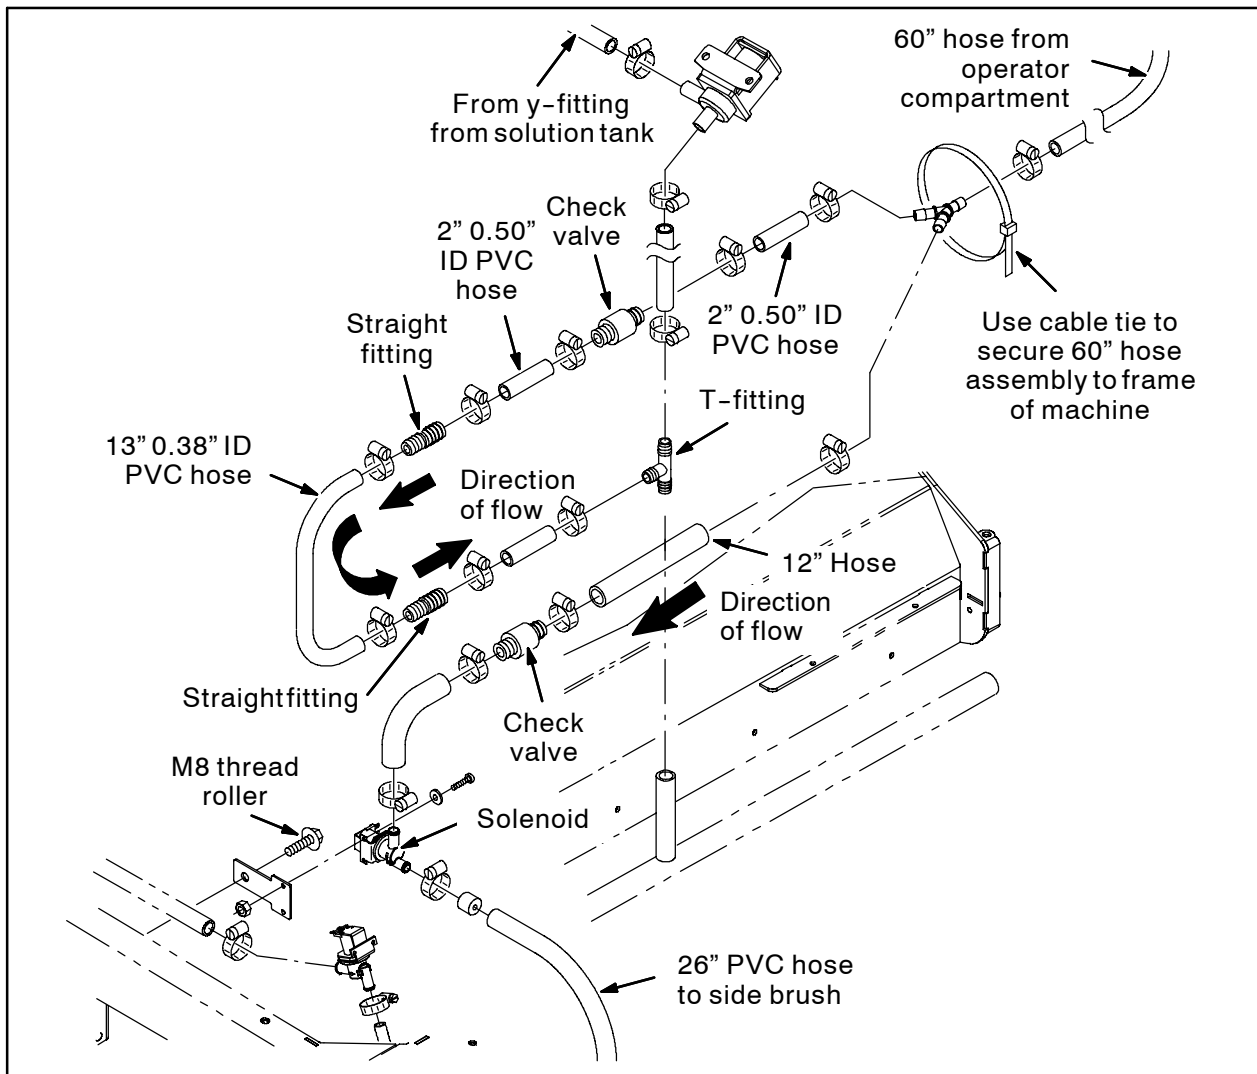

FIG. 4
16. Assemble the check valve, straight fittings, 13" hose, and 2" hoses as shown in Fig. 4. Note direction of flow.
17. Use a hose clamp to attach the hose assembly assembled in the previous step to the y-fitting connected to the 60" 0.50 ID PVC hose. Refer to Fig. 4.
18. Use two M5 pan screws, two flat washers, and two M5 hex nuts to install the solenoid onto the solenoid bracket. Refer to Fig. 4.
19. Use a M8 thread roller to install the solenoid / solenoid bracket onto the frame of the machine. Refer to Fig. 4.
21. Cut the bent hose 12" from the longer end of the hose. Refer to Fig. 4.
22. Use two hose clamps to install a check valve between the two sections of hose cut in the previous step. Note the direction of flow. Refer to Fig. 4.
23. Use a hose clamp to connect the trimmed hose to the solenoid. Refer to Fig. 4.
24. Use a hose clamp to connect the other end of the trimmed hose to the y-fitting connected to the 60" PVC hose from the operator compartment. Refer to Fig. 4.
25. Use a hose clamp to connect a 26" PVC hose to the solenoid. Refer to Fig. 4.